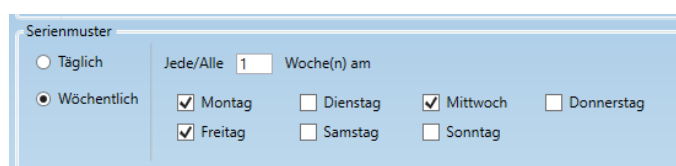

Figure 25: Weekly serial pattern. In the example shown, the storage of each week on Mondays, Wednesdays and Fridays active for 24h each
- **Weekly:** It can be set that the image storage is activated every X weeks from the week in which the start date is held, on the selected days of the week, for 24 hours each (Figure 25).